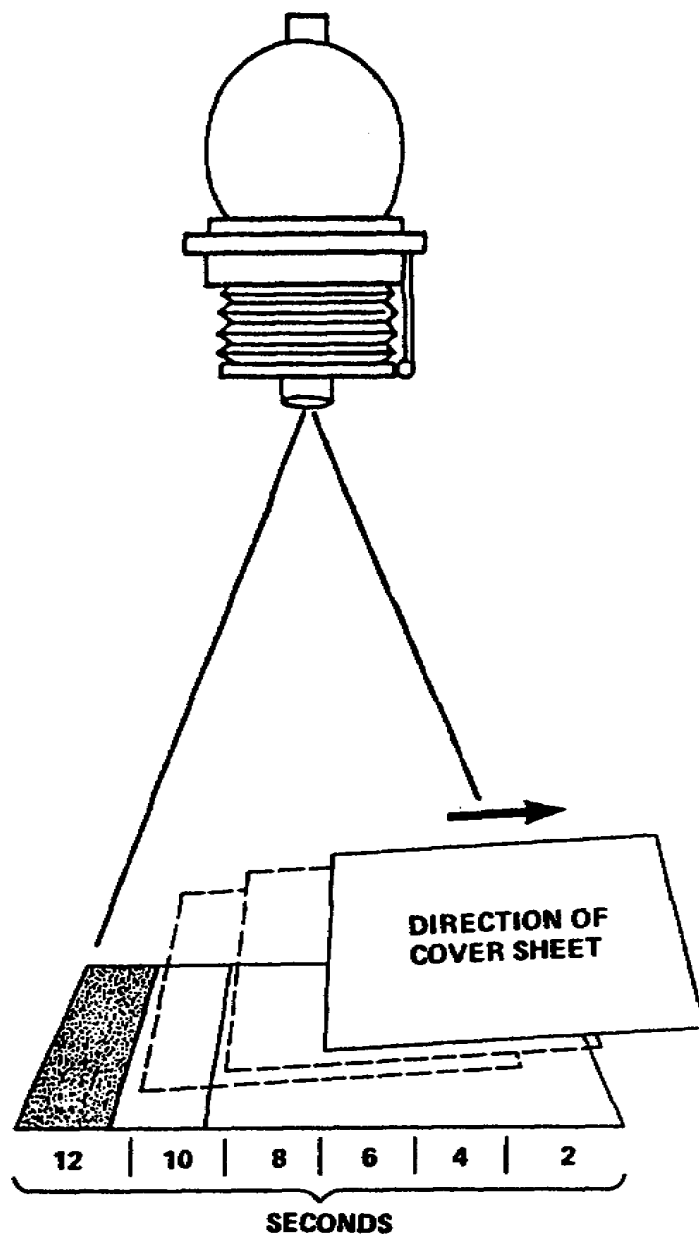

Figure 2-3. Making a test strip
(1) With your negatives placed on the printing glass, you are now ready to make a test exposure. Place the photo paper, emulsion down, on the negatives.
(2) With the paper in place, raise the padded back and clamp it down securely on the glass so the negatives and paper are in direct contact. Now flip the frame over so the glass side is facing up at the projection printer.
(3) Now you are ready to make the first exposure. Start by giving the entire sheet of paper a two-second exposure.
(4) Next, cover a portion of the paper approximately 1 to 2 inches wide with a piece of cardboard or other opaque material, and make another exposure of two seconds. A sample of this procedure is shown in Figure 2-3. Repeat this procedure to make as many exposures as needed to bracket the correct exposure.
(5) After development, there are, on one sheet of paper, five bands with exposures of 2, 4, 6, 8, and 10 seconds. From this test you should easily be able to determine the correct exposure time.
(6) Inspect the test strip. Determine the best exposure by observing any of the highlight areas. The highlight areas should be slightly darker than the base of the paper that didn't receive any exposure. The highlight areas should contain detail. Too much exposure is indicated when the highlight areas are much darker than unexposed material. If the highlights are not correct on any of the test strips, run a new series of tests using more or less exposure as indicated.